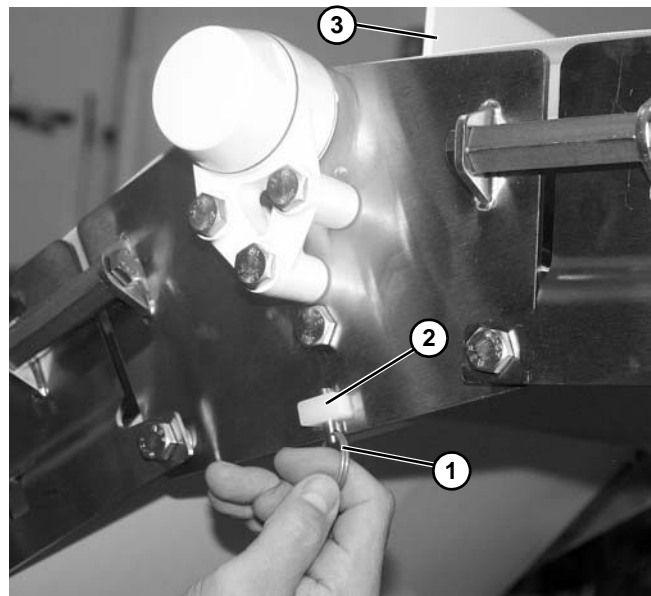

Figure 30
7. Remove pull pin (**Figure 30, item 1**) securing roller guard (**Figure 30, item 2**) on each side of conveyor on upper knuckle plate.
8. Install belt (**Figure 30, item 3**) and reinstall each roller guard with pin.